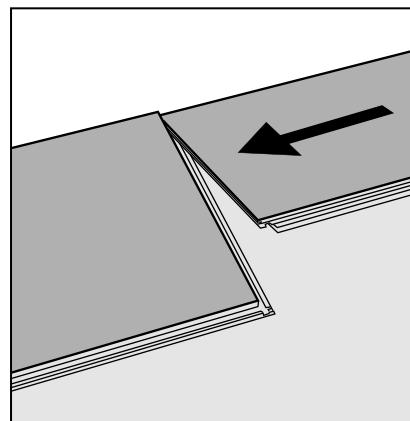

Figure 12 Second plank, first row
► Place the short end of the second tile or plank close to the corresponding short end of the previous one. Carefully fold it down with a single action movement (Fig 12).